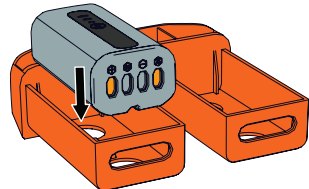

Figure 14
5. Reinstall the covers and reinsert the battery cases into the battery compartment. Be sure the end with the openings is aligned with the opening on the rear of the battery compartment. (Figure 14)